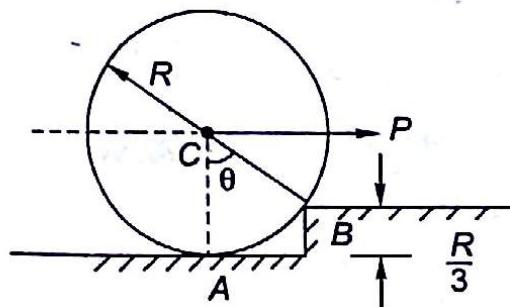

Fig. 3.48
- 3.2 A uniform wheel of radius R weighing W Newton rests against a rectangular edge $R/3$ high as shown in Fig. 3.48. Find the magnitude of the force P required to just turn the wheel about the edge B .